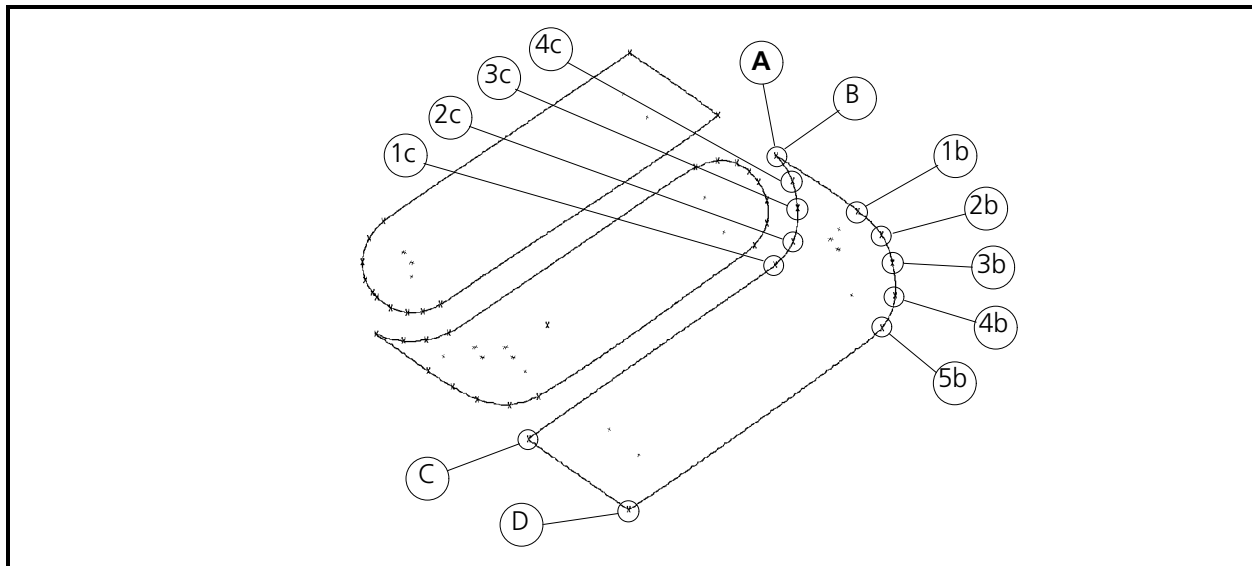

Figure 6-78
3. When you have completed the fill stitching with a Mk3 at point A, perform a lock stitch at D in Figure 6-78.